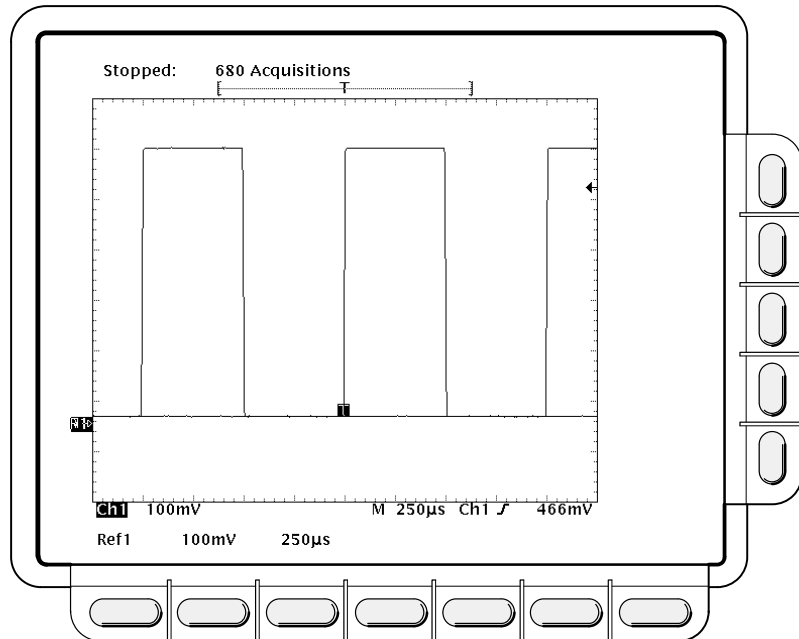

Figure 1-25: Measurement of Probe Compensator Amplitude
- f. Press **CLEAR MENU** to remove the menus from the display. See Figure 1-25.